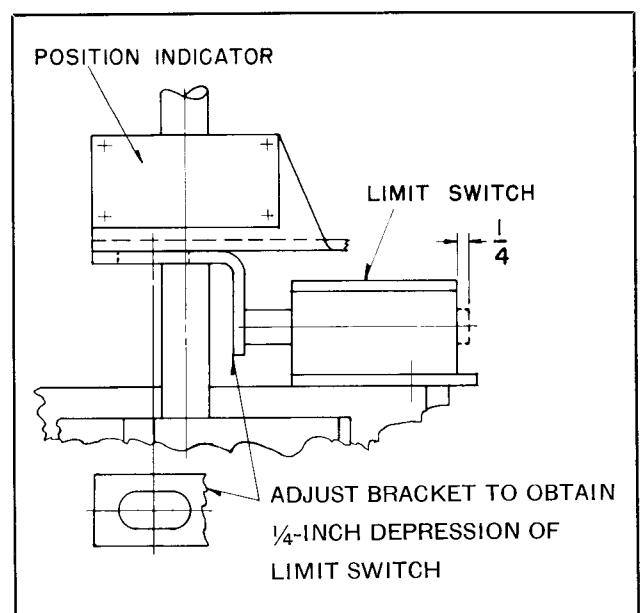
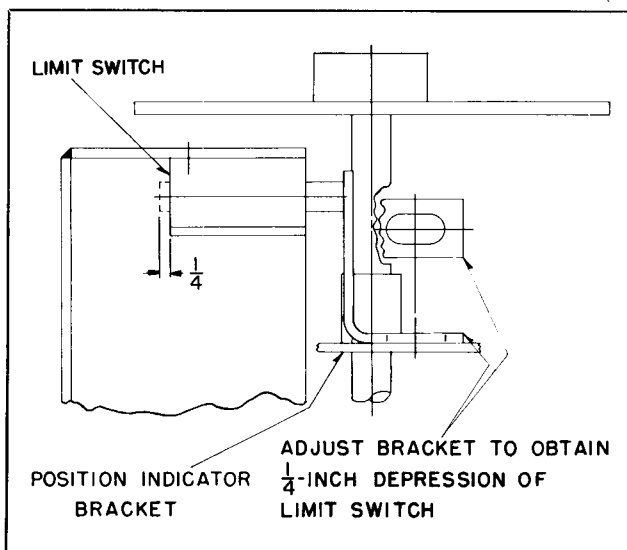

FIG. 7. Lower Limit Switch Adjustments
FIG. 8. Upper Limit Switch Adjustments
To make adjustments in the limit switch, first loosen mounting bolts which hold brackets to the nameplate assembly. Then slide brackets in their slots to provide the travel desired. Tighten mounting bolts to prevent the brackets from moving out of adjustment. See Fig. 7 and Fig. 8.
6. Check the limit switch (lower plunger type switch of the limit switch assembly). The plunger should be depressed about $\frac{1}{4}$ of an inch at the end of the stroke. If necessary, adjust bracket. See Fig. 7.
8. In this position, check the limit switch (upper plunger type switch of the limit switch assembly). The plunger should be depressed $\frac{1}{4}$ of an inch at the end of the stroke. If necessary, adjust bracket. See Fig. 8.
7. Check the limit switch (upper plunger type switch, marked SF-CT, located in the lower compartment). The plunger should be depressed about $\frac{1}{4}$ of an inch at the end of the stroke bracket. If necessary, adjust per Fig. 8.
9. In this position, check the limit switch (the lower plunger type switch, marked SF-CS). The plunger should be depressed about $\frac{1}{4}$ of an inch at the end of the stroke. If necessary, adjust bracket per Fig. 7.